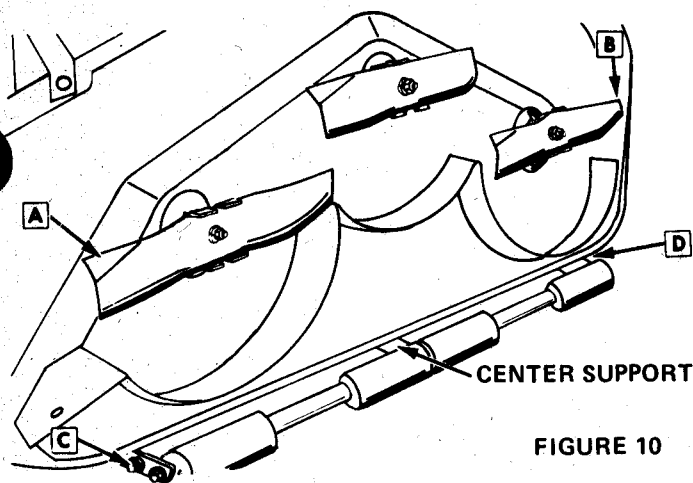

FIGURE 10
5. Rotate the blades until they are parallel to the roller assembly as shown in Figure 10. Measure distance from floor to outer blade tips at points A and B. These distances must be equal. If they are not, loosen roller assembly adjusting bolts C and D and pivot the mower deck using the center support as a
NOTE: If there are any indications of damage to the mower deck, blades or blade spindles, measure the blade tips at A and B, then rotate the blades 180 degrees and measure the opposite blade tip ends. If the measurements vary more than 1/8" on any blade, see your Ariens dealer for service. If the variation is not excessive, level the mower using the lowest measurement from blade tip to ground at A and B. Figure 10.